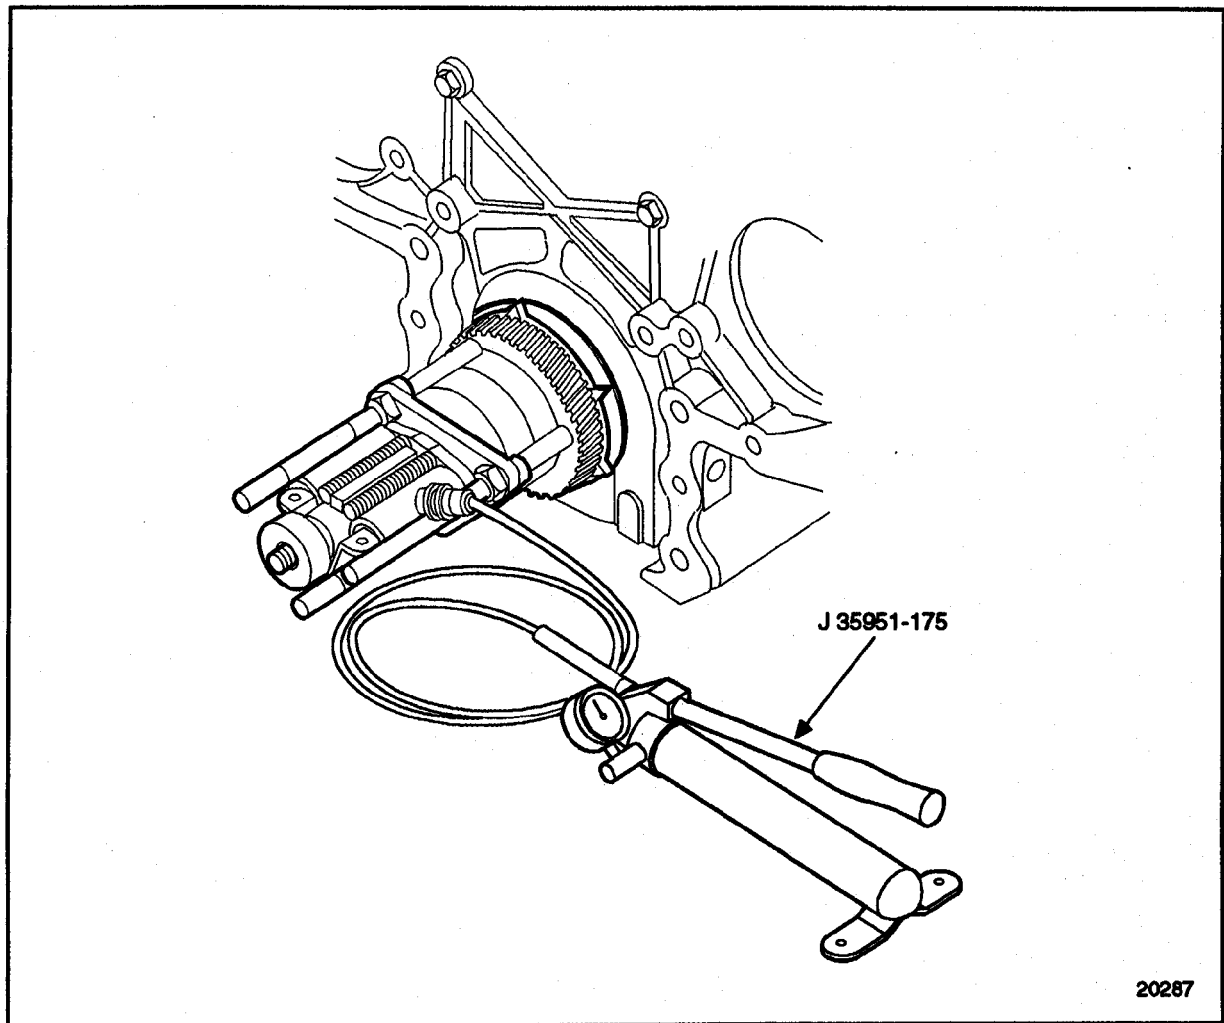

Figure 1-398 Crankshaft Timing Gear Installation
11. Close the valve on J 35951-175. Work the pump handle to supply hydraulic pressure to the ram. Make sure that the slot in the crankshaft timing gear indexes with the key in the crank. Pump until the crankshaft timing gear is seated firmly against the timing wheel and the timing wheel is seated firmly against the crankshaft flange. See Figure 1-398.